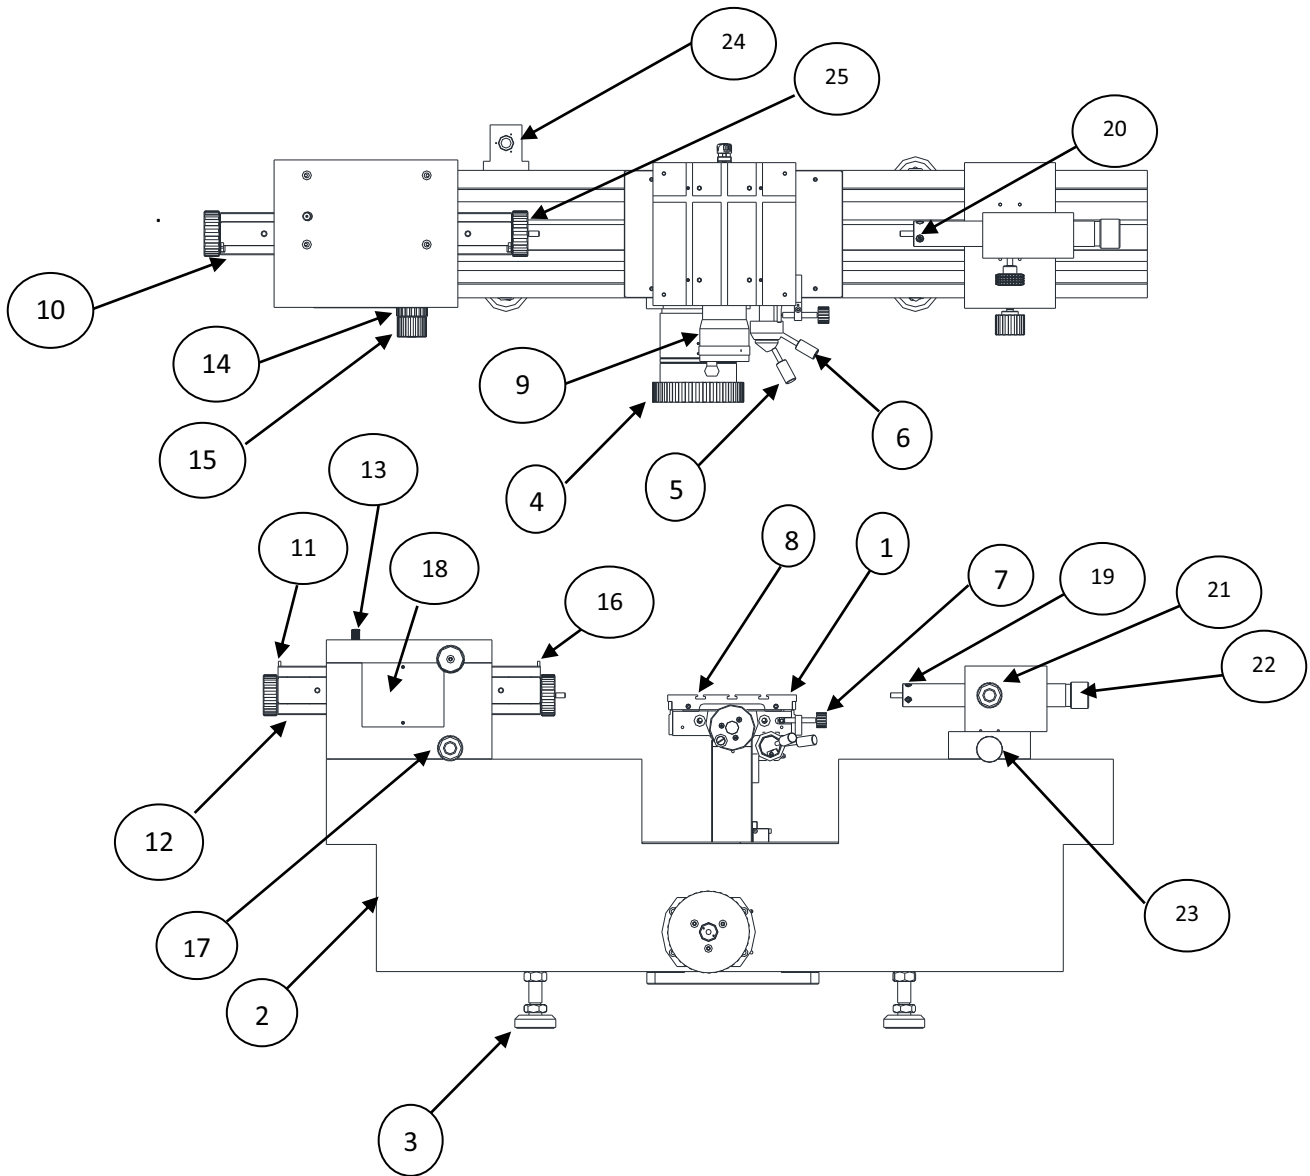

Fig. 3 Outline of the digital universal metroscope
4.1.1 Base (Fig. 3)
4.1.2 Universal worktable (Fig. 3)
4.2 Abbe measuring head (Fig. 3)
4.3 Tailstock (Fig. 3)